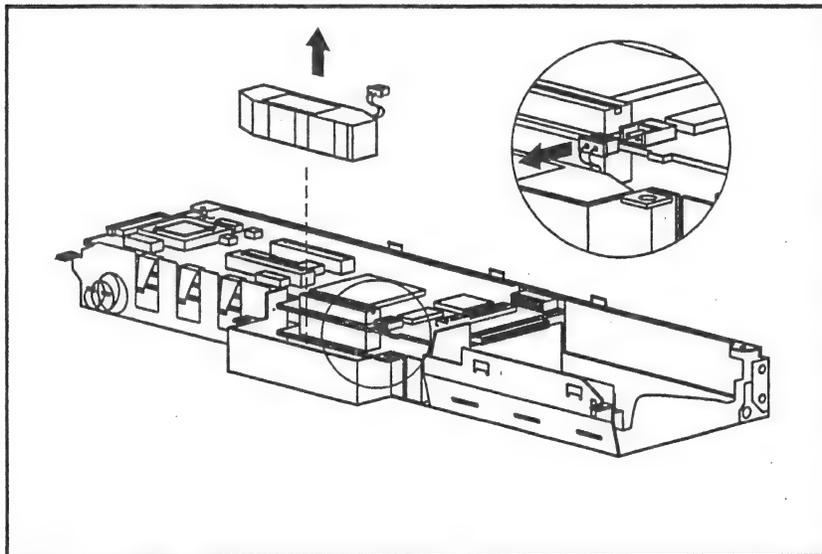

Figure 2-58. Removing the Auxiliary Battery
4. Disconnect the auxiliary battery cable from the I/O board (Figure 2-58).
5. Gently lift the auxiliary battery out of the system module (Figure 2-58).